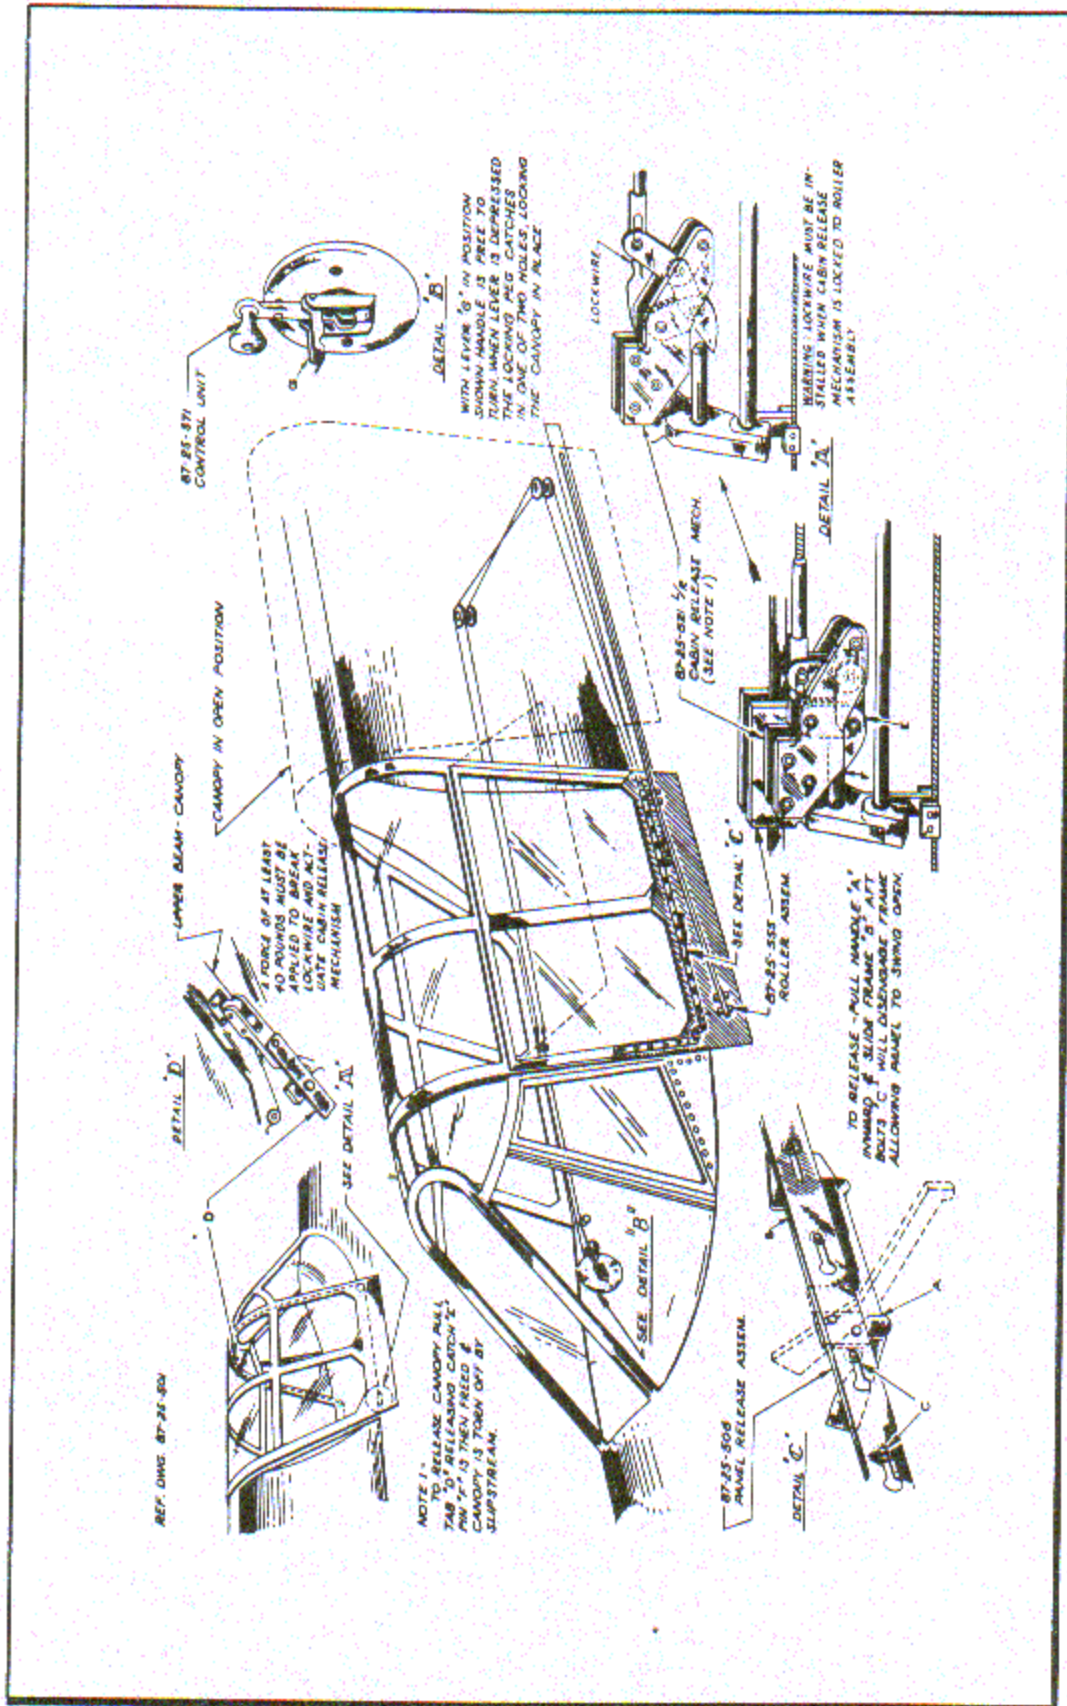

Figure 14 - Detail Operation of Cabin Controls
(8) Open the cockpit enclosure by operating the control crank. (See figure 14.)
In the event of an emergency during flight, pull the emergency release handle "D" at the top forward frame of the cockpit enclosure and the entire canopy will be torn off by the slip stream. (See figure 14, detail "A.") After a turn over on the ground, pull the release handle "A" located on the left lower canopy frame, inboard, to unlock the emergency exit frame "B." Slide frame "B" aft with the release handle "A" until the kick-out panel on the left side of the canopy can be pushed open. This panel can also be opened from the outside by pulling out the handle on the lower frame (painted red) and pushing back until the panel locks are disengaged.
f. Be sure that the control lever "G" (detail "B," figure 14) is in the position shown so that the canopy may be closed and opened by hand from the outside.